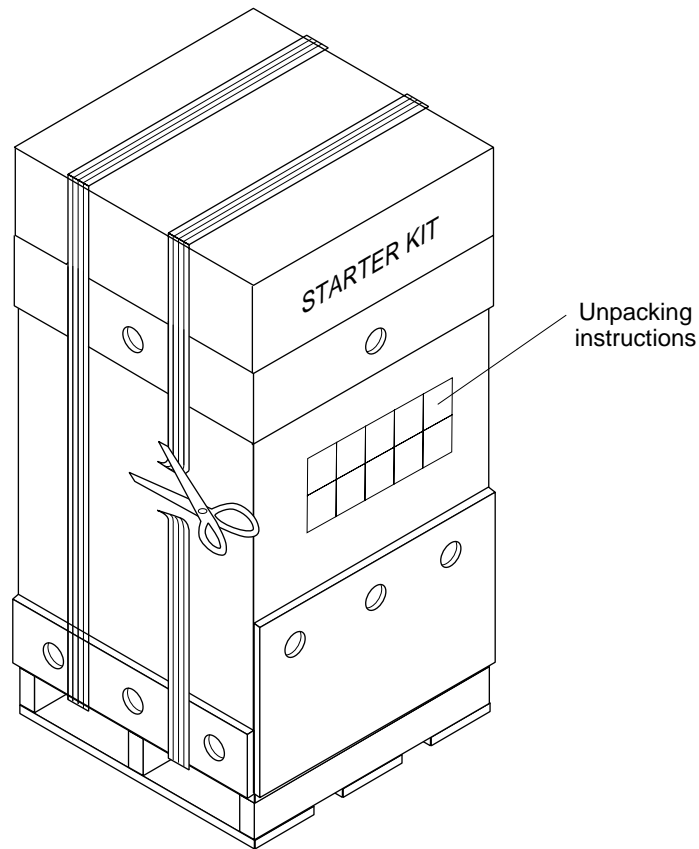

Figure 2-6 **Cutting Plastic Strap**
1. Cut the plastic strap as shown in Figure 2-6.